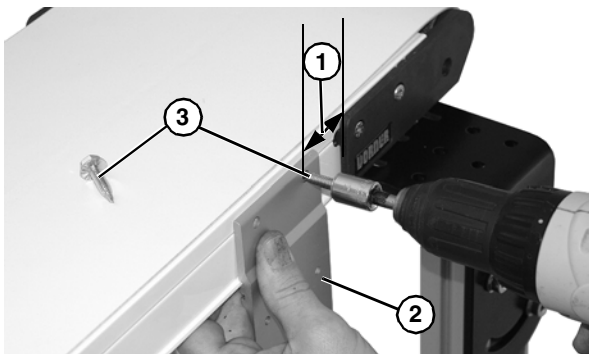

Figure 10
4. Measure an equal distance (**Figure 10, item 1**) from end of head plate (on both sides of conveyor) and mark placement of mounting brackets (**Figure 10, item 2**). Fasten mounting brackets to conveyor with mounting screws (**Figure 10, item 3**) following proper methods of attachment instructions on page 10.